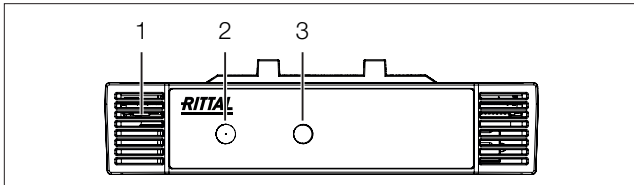
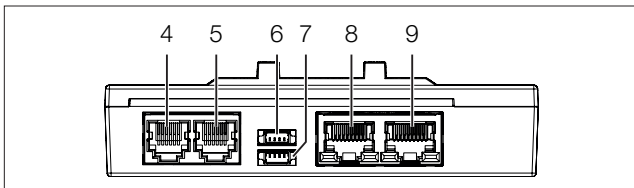

Fig. 13: Front of the access control
Fig. 14: Rear of the access control
A multi-LED for the status display is integrated into the front of the access control (fig. 13, item 1). Further LEDs are located at the rear on the CAN bus connection (fig. 14, item 8 and 9).